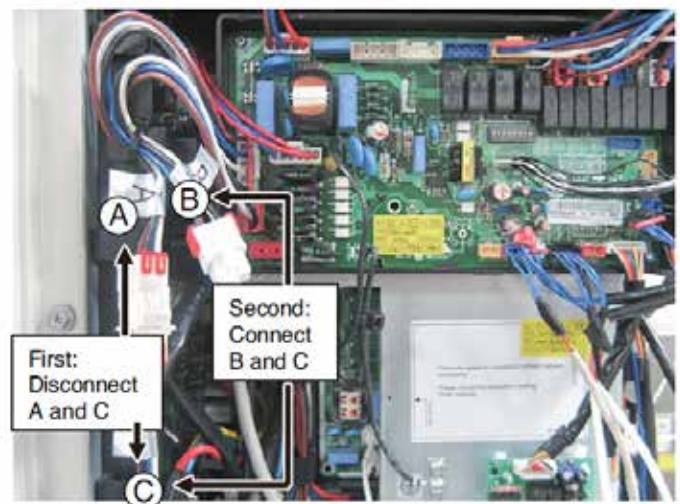

Figure 49: Control Box Cable Connections for Thermostat
4. Locate connecting cable A and C and disconnect (Figure 49).